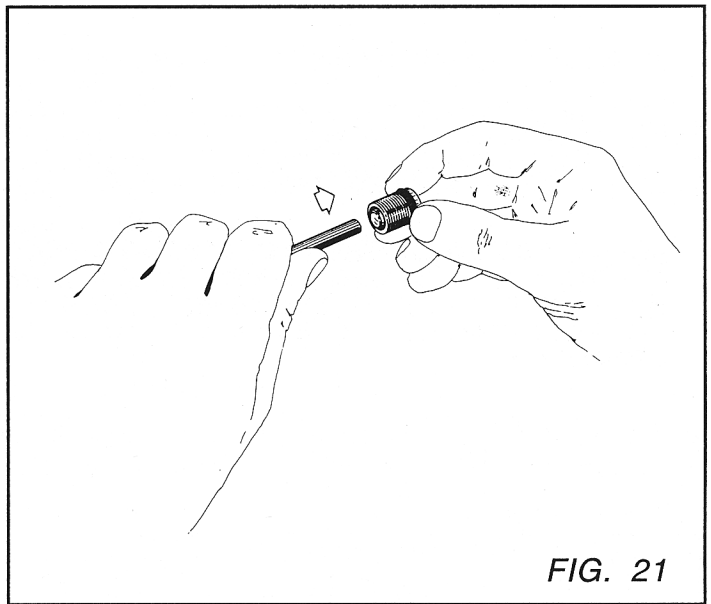

FIG. 21
**THE LOCKING HEAD MUST BE FACING THE OPEN END OF THE FIRST STAGE COVER. A SMALL PLASTIC ROD CAN BE USED TO PRESS THE LOCKING HEAD AND SPRING INTO THE FIRST STAGE COVER (FIG 21).**
13. Insert the poppet pin (12) through the center hole in the first stage body.
14. Place the poppet button (13) over the poppet pin and depress it a few times to ensure that the poppet will move freely.
15. Install first stage diaphragm (14).
17. Place spring base plate (15) on diaphragm.
18. Place shock ring (69) onto retaining nut (17).